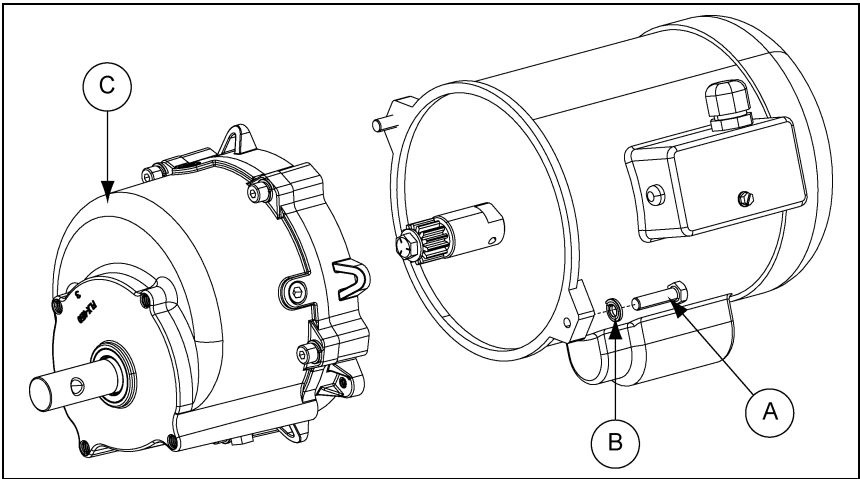

Figure 5T
1. Un-install the gearbox (C) from the motor by removing the bolts (A) and washers (B). *(See Figure 5T.)*